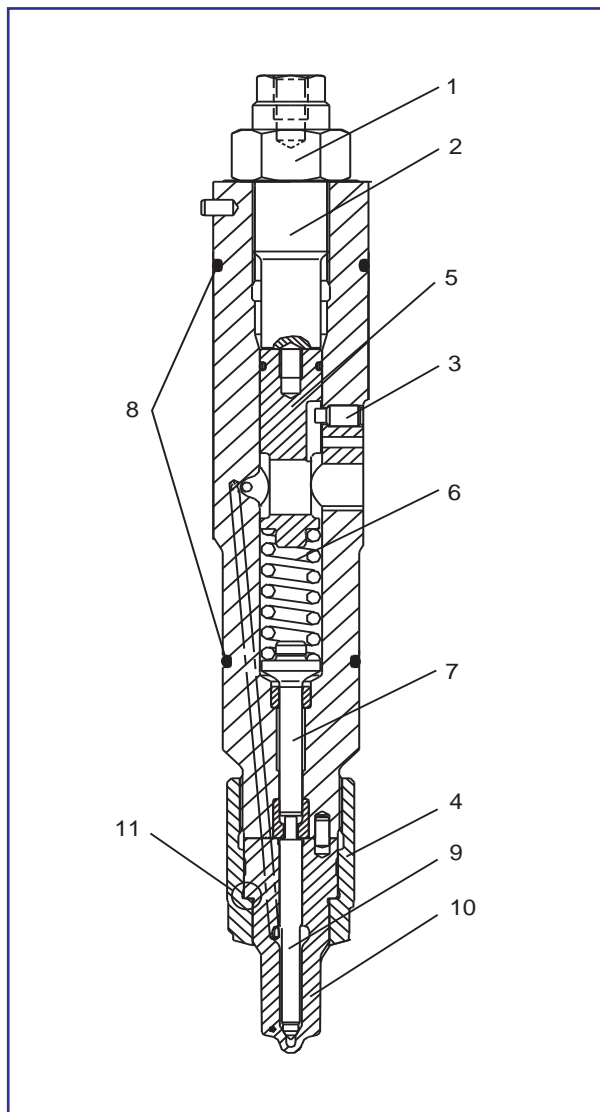

Fig 1. Assembly of the nozzle
1) Clean threaded pin (3) and bore carefully as given in Loctite-specifications.
2) Hold holder body at an angle (with sealing face facing up) and guide in thrust piece (5) including compression spring (6) and spring plate (7). Pay attention to the position of the groove for the threaded pin (3) (see fig.1).
3) Paint screw thread of the threaded pin (3) with securing compound Loctite 243 on a length of 5mm and thread in into holder until threaded pin no longer projects. **Check that the thrust piece can still move in axial direction.**
4) Screw in adjusting screw (2), do not yet tighten compression spring.
5) Insert holder complete fuel valve in the nozzle tester such that the sealing surface for nozzle body (10) faces up and tighten evenly. Rotate take-up head by 180° and fix it.
6) Dip nozzle needle (10) in clean fuel and guide into the nozzle body, check easy movement.
9) Paint pressure shoulder (11) on nozzle body (10) with lubricant "Optimol Paste White T". Please see Fig. 1.
10) Paint screw threads of holder and nozzle tensioning nut (4) as well as pressure shoulder (4) on nozzle tensioning nut with lubricant "Optimol Paste White T". Please see Fig. 1.
12) Screw on hexagonal nut (1) loosely on adjusting screw and tighten only after adjusting the opening pressure, please see description 500.35.